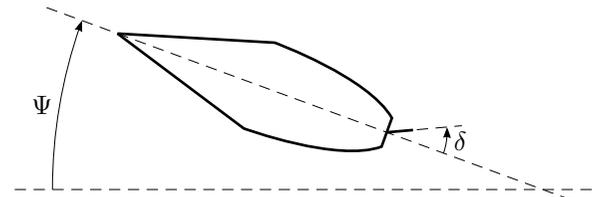

Figure 4.2a
4.2 We want to keep a ship on a given course, Ψ , with an automatic control system using the rudder angle δ . See Figure 4.2a. If ω denotes the angular velocity of the ship,